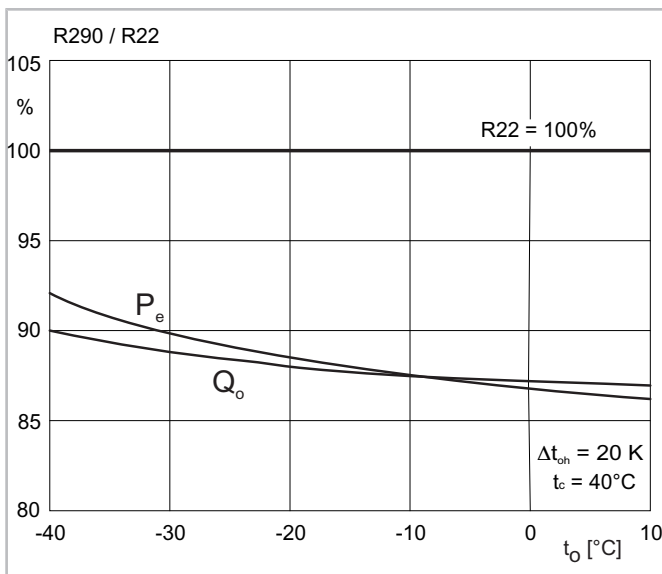
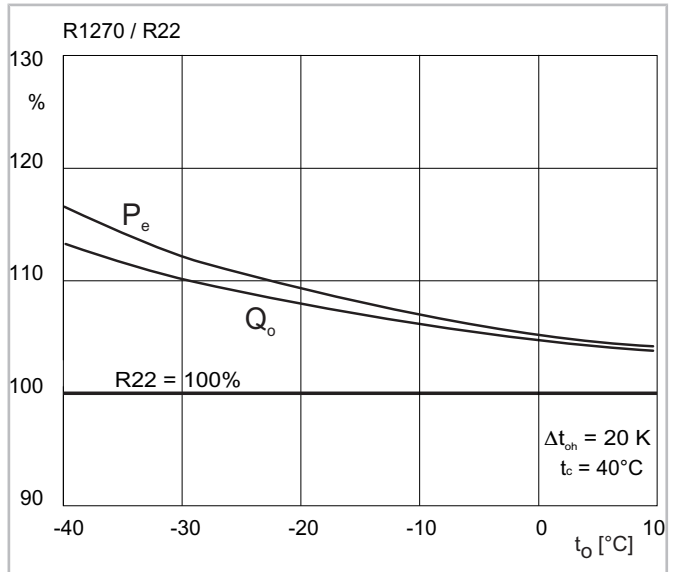

Fig. 7: Performance comparison R290/R22 for suction gas cooled semi-hermetic reciprocating compressors
Fig. 8: Performance comparison R1270/R22 for suction gas cooled semi-hermetic reciprocating compressors
- In terms of their coefficients of performance (COP), R290 and R1270 differ only slightly from R22 (see figure 7, page 10 and see figure 8, page 10) and are thus better suited than R404A/R507A for medium-temperature application and air-conditioning application.